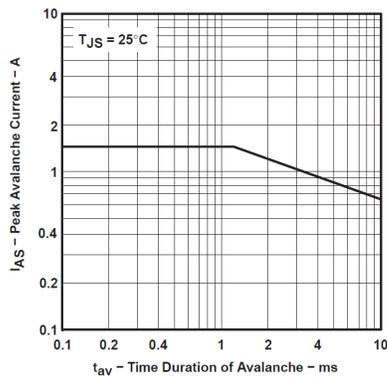

Figure 5-1. Peak Avalanche Current vs. Time Duration of Avalanche
- (1) Operation outside the Absolute Maximum Ratings may cause permanent device damage. Absolute Maximum Ratings do not imply functional operation of the device at these or any other conditions beyond those listed under *Recommended Operating Conditions*. If used outside the Recommended Operating Conditions but within the Absolute Maximum Ratings, the device may not be fully functional, and this may affect device reliability, functionality, performance, and shorten the device lifetime.
- (2) All voltage values are with respect to network ground terminal GND.
- (3) Pulse duration  $\leq 100\mu\text{s}$ , duty cycle  $\leq 2\%$
- (4) DRAIN supply voltage = 15V, starting junction temperature ( $T_{JS}$ ) =  $25^\circ\text{C}$ ,  $L = 100\text{mH}$ ,  $I_{AS} = 1\text{A}$  (see Figure 5-1).
- (5) See Dissipation Table